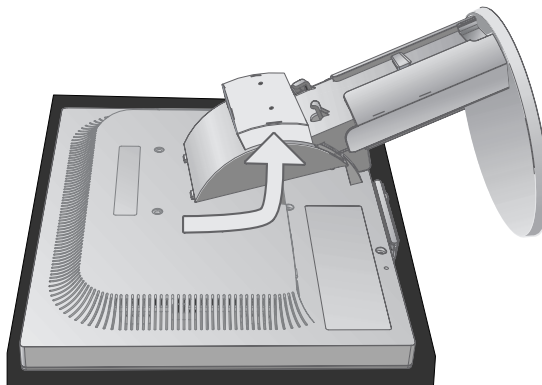

Figure S.3
5. Remove the stand having three hooks toward direction (**Figure S.3**).